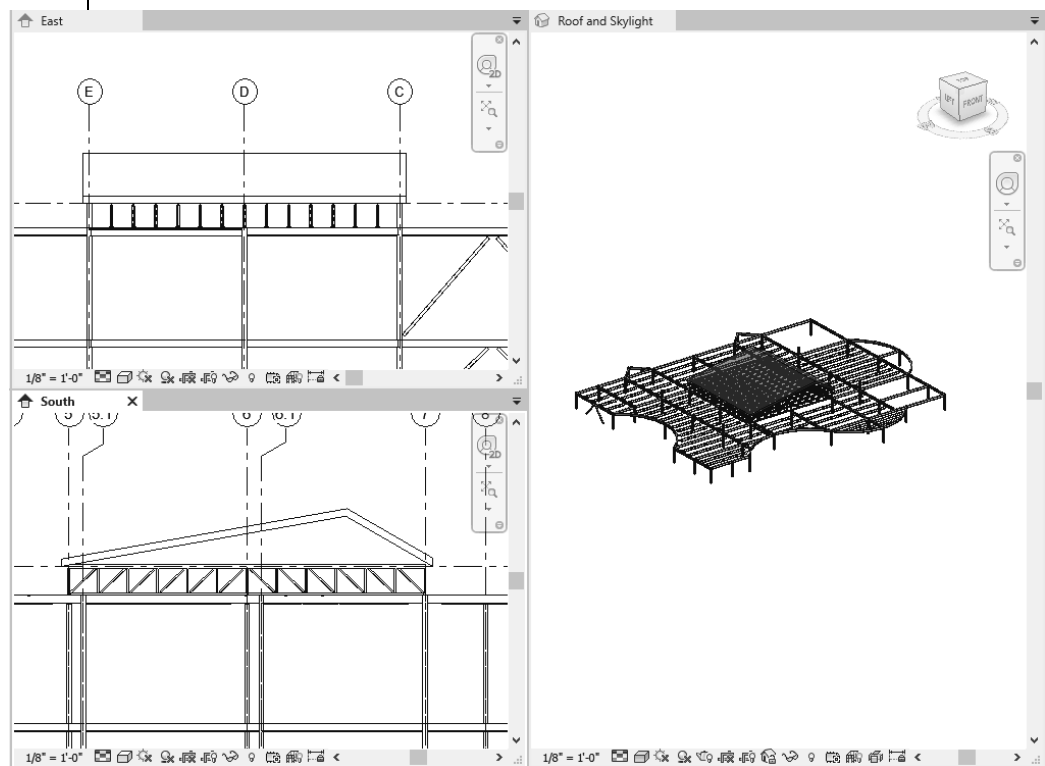

Figure 7-72
5. Zoom in on the skylight roof in the two elevation views, similar to that shown in Figure 7-72.